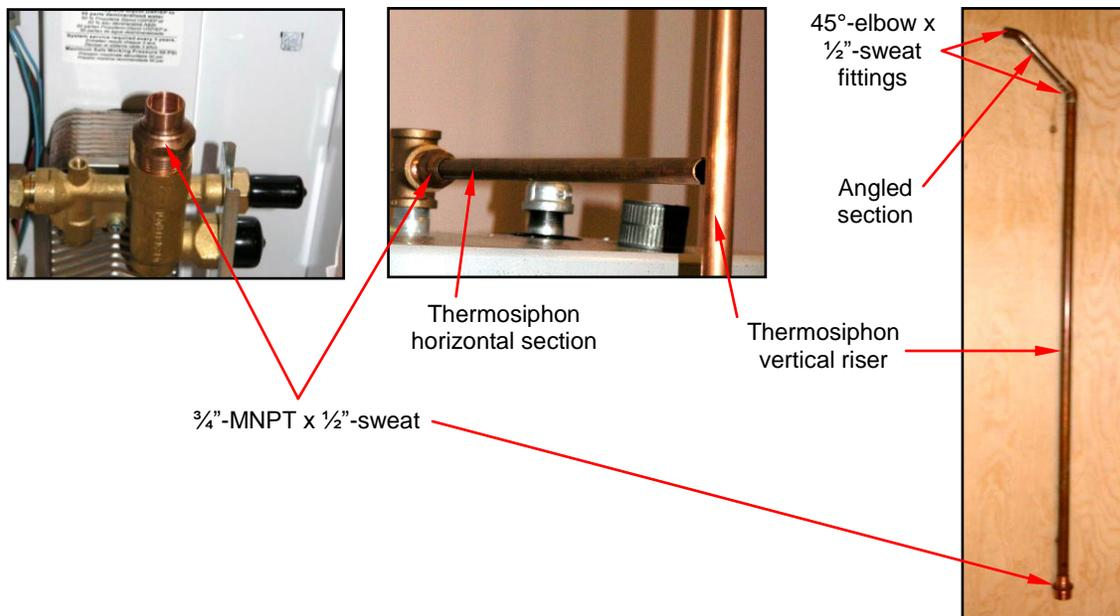

Fig.4.3.2 – Thermosiphon loop – horizontal and angled sections and vertical riser.
4. Remove protective plug from top port of upper manifold. Loosely thread $\frac{3}{4}$ " MNPT x $\frac{1}{2}$ " sweat fittings into $\frac{3}{4}$ " FIP port at top of upper manifold and into middle port (horizontal) of hot port $\frac{3}{4}$ " FIP brass tee (Fig.4.3.2).
6. Thermosiphon loop requires two 45°elbow bends to facilitate natural convection. One 90° elbow is not acceptable. Cut pipe lengths to accommodate two 45°elbow x 1/2" sweat fittings with an angled pipe length between them. Thermosiphon loop will consist of vertical riser and horizontal section with angled (45°) section in between (*Fig. 4.3.2*). Adjust orientation of hot port 3/4" FIP brass tee to ensure a thermosiphon riser is vertical.